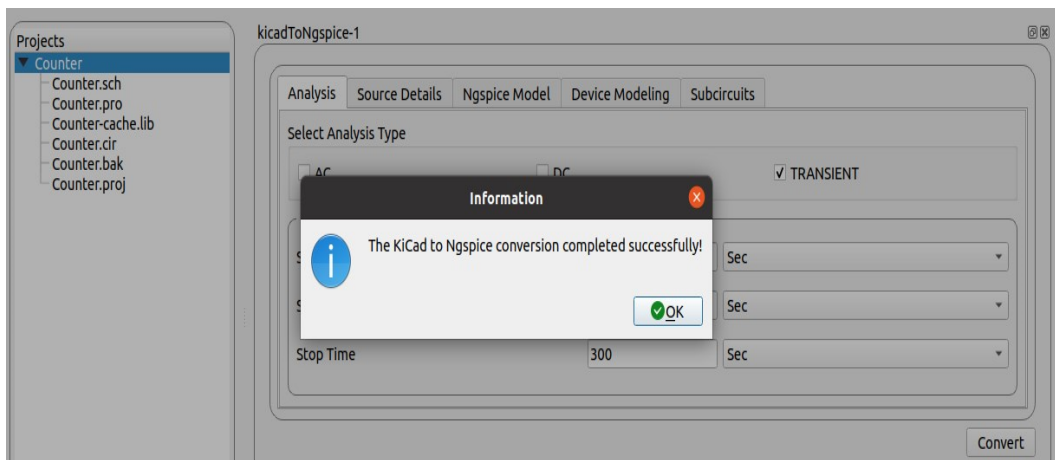

Figure 10.35: KiCad to Ngspice conversion
3. In this counter example, no device modeling and sub-circuit build up is required. Now click on the **Convert** button as shown in Fig. 10.35. This will convert KiCad schematic into Ngspice code i.e it creates the simulation compatible netlist.